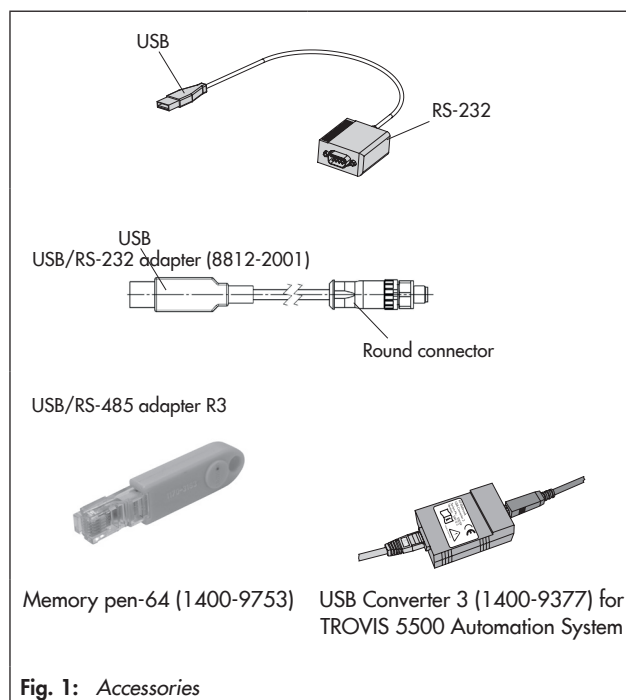

Fig. 1: Accessories
Table 1: Accessories (Fig. 1 to Fig. 3)
* Connection either using the computer's COM port or USB port with a USB/RS-232 adapter (Fig. 1).